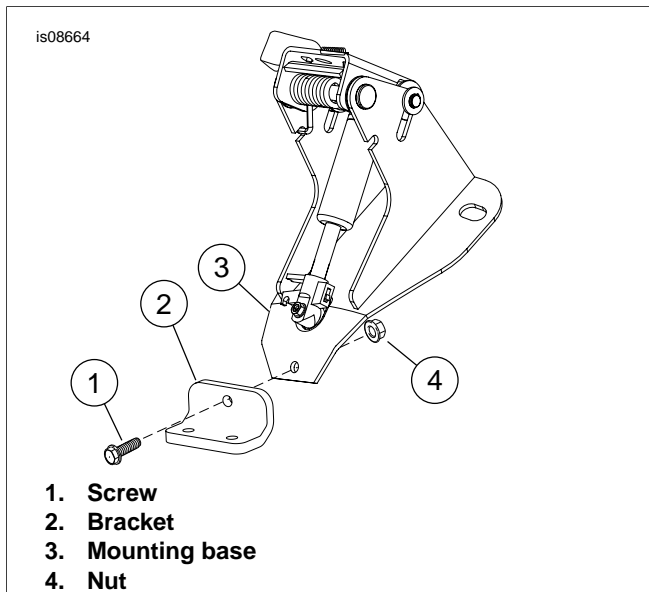

Figure 4. Install bracket
2. See Figure 4. Attach bracket (2) to mounting base (3). Install screw (1) and nut (4) as shown. Leave fasteners loose.